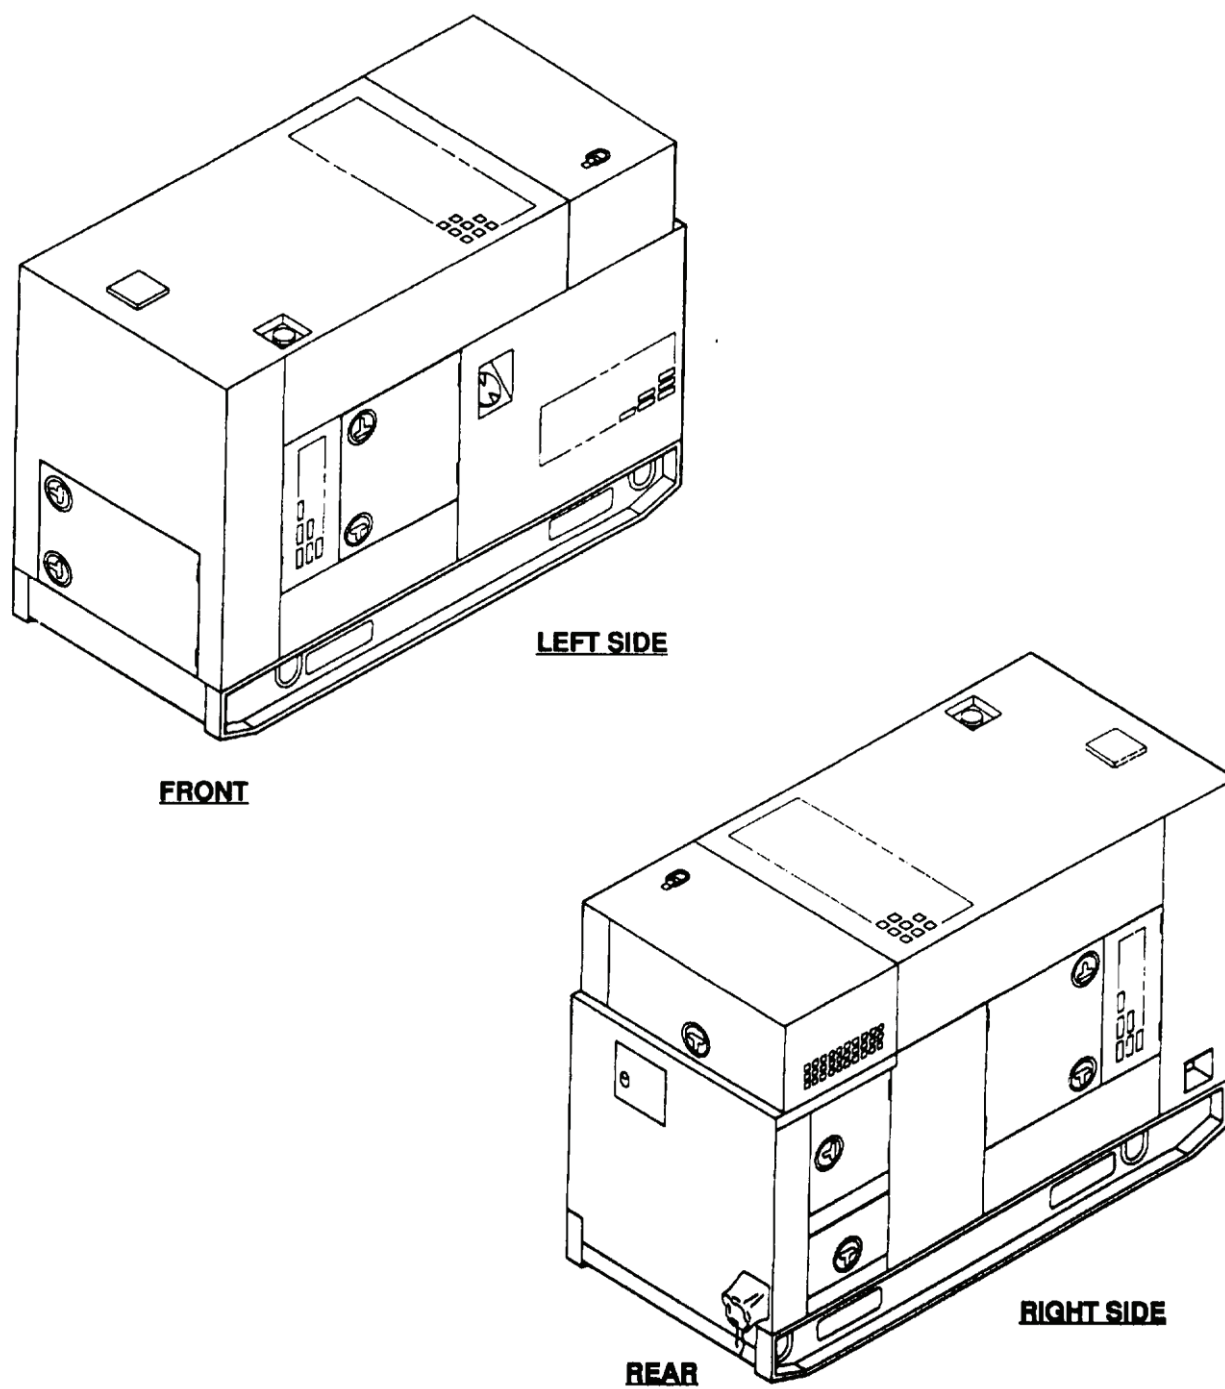

Figure 1. Generator Set, 30 kW, Tactical Quiet.
This manual contains Field and Sustainment maintenance instructions for the 30 kW 50/60 Hz and 400 Hz Tactical Quiet (TQ) Generator Sets (Figure 1), herein referred to as generator sets. Included are descriptions of major components and their functions in relation to other components.
The generator sets, models MEP-805A and MEP-815A (WP 0001, Figure 1), are fully enclosed, self-contained, skidmounted, portable units. They are equipped with controls, instruments, and accessories necessary for operation as single units or in parallel with another unit of the same class and mode. The generator sets consist of a diesel engine, brushless generator, excitation system, speed-governing system, fuel system, 24 VDC starting system, control system, and fault system.